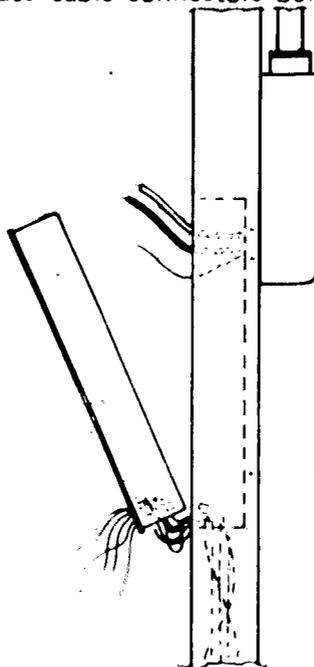

FIGURE 2
- S. Start branch circuit cables into openings (Figure 2)